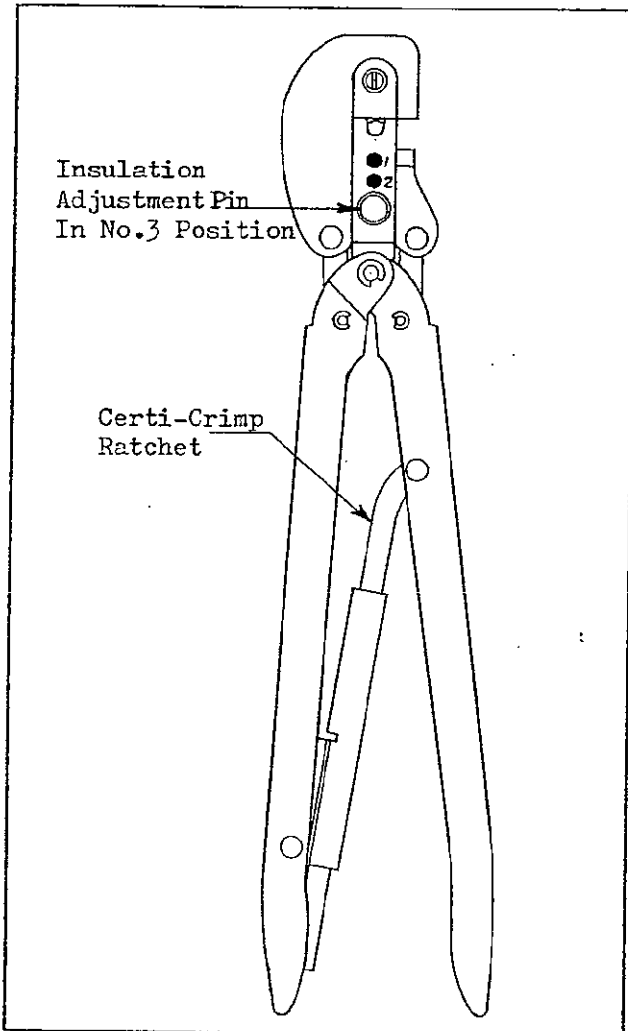
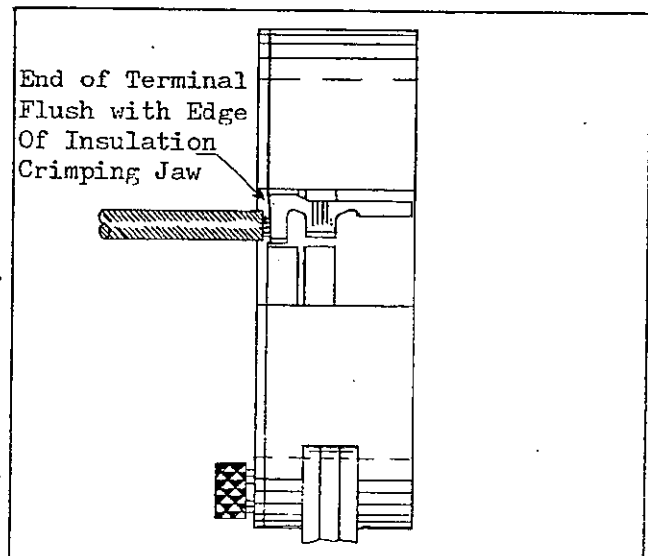

FIG. 1
FIG. 3
1. The Tool, see Figure 1, covered by this Instruction Sheet is used to crimp AMP FASTON Receptacles No.150270. Wire size 14-10.
3. INSULATION CRIMPING ADJUSTMENT - (a) The A-MP Hand Tool has three Insulation Crimping Adjustments. See Figure 1. (b) Position No. 3 is for wire having a Large Insulation Diameter. (c) Position 2 is for wire having a Medium Insulation Diameter. (d) Position No. 1 is for wire having a Small Insulation Diameter. (e) To make adjustment, pull Pin
4. CRIMPING PROCEDURE - (a) To open Crimping Jaws, squeeze handles until Certi-Crimp Ratchet, see Figure 1, releases. Open Handles all the way. (b) Place terminal in Crimping Jaws as shown in Figure 3. (c) Squeeze handles until terminal is held firmly in place. Do not deform terminal barrel. Note that once Certi-Crimp Ratchet is engaged, handles cannot be opened. (d) Insert stripped wire into terminal barrel. (e) Hold wire in position and complete crimp by squeezing handles until Certi-Crimp Ratchet releases.